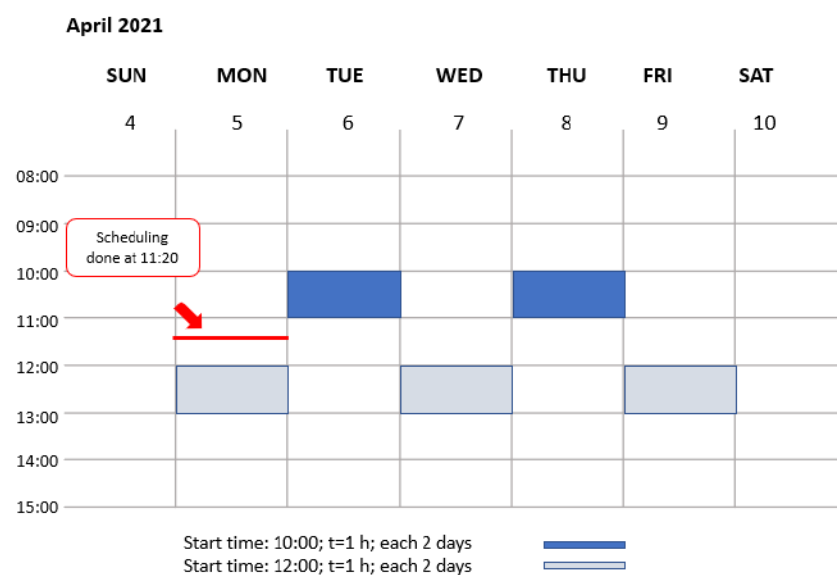

Figure 5 Basic scheduling → "Intervals" Mode
- b. **Intervals:** you must select the start time, the duration and how many days you want to irrigate from the day and time at which the scheduling is done. For example, if the scheduling is done on Monday at 11:20 am, the start time may be before or after this time. If the start time is at 10 am, then irrigation will occur on Tuesday and Thursday. But if the start time is at 12 pm, then irrigation will take place on Monday and Wednesday (see Figure 5).